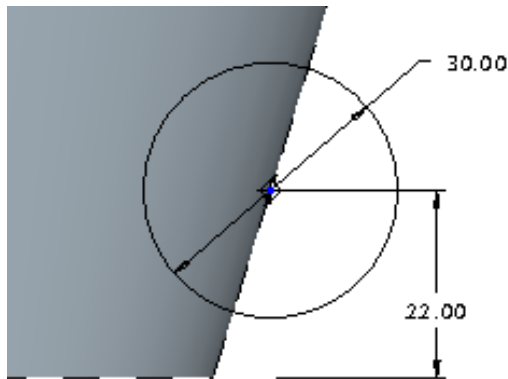
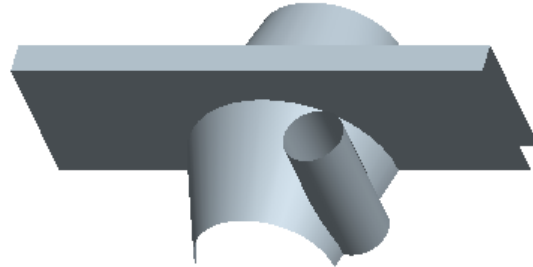

Figure 13-92 Sketch of the cylindrical surface
Figure 13-93 Cylindrical surface
In this tutorial you will create the surface model shown in Figure 13-92. The front and the right-side views of the surface model are shown in Figure 13-93. **(Expected time: 45 min)**
- e. The fourth feature is the cylindrical surface, refer to Figures 13-92 and 13-93.
4. After entering the **Sketcher** environment, draw the circle and dimension it as shown in Figure 13-92.
5. Exit the **Sketcher** environment and extrude the sketch to some appropriate depth, refer to Figure 13-93.
The model after creating the surface extrusion is shown in Figure 13-93.